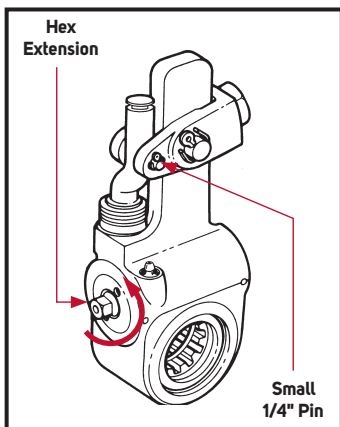

Figure 5 – ASA Drawing
3. The unit must be replaced if less than 15 ft. lb. of torque exists when turning the hex extension counterclockwise. Refer to the test as described under "Troubleshooting" (See fig. 5).
4. Never operate the vehicle with small 1/4" pin missing from the clevis. The automatic slack adjuster will not maintain proper brake adjustment with either pin missing (ref. fig. 5).